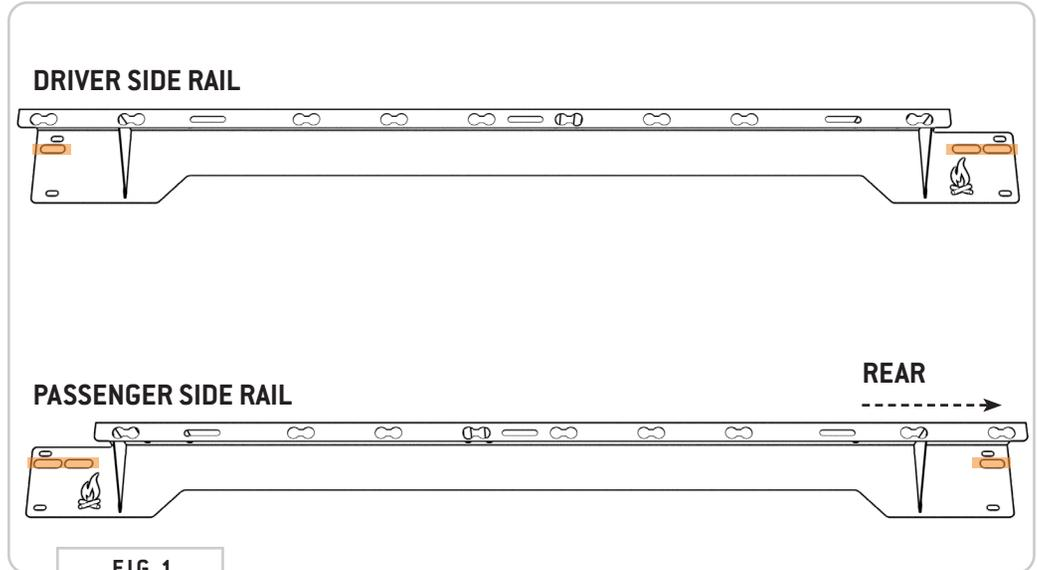

FIG 1
**2.1a** See mounting slots highlighted in **FIG 1**. These are designed to accommodate L-Track Studs for use when attaching FVC Bed Rails to L-Track.